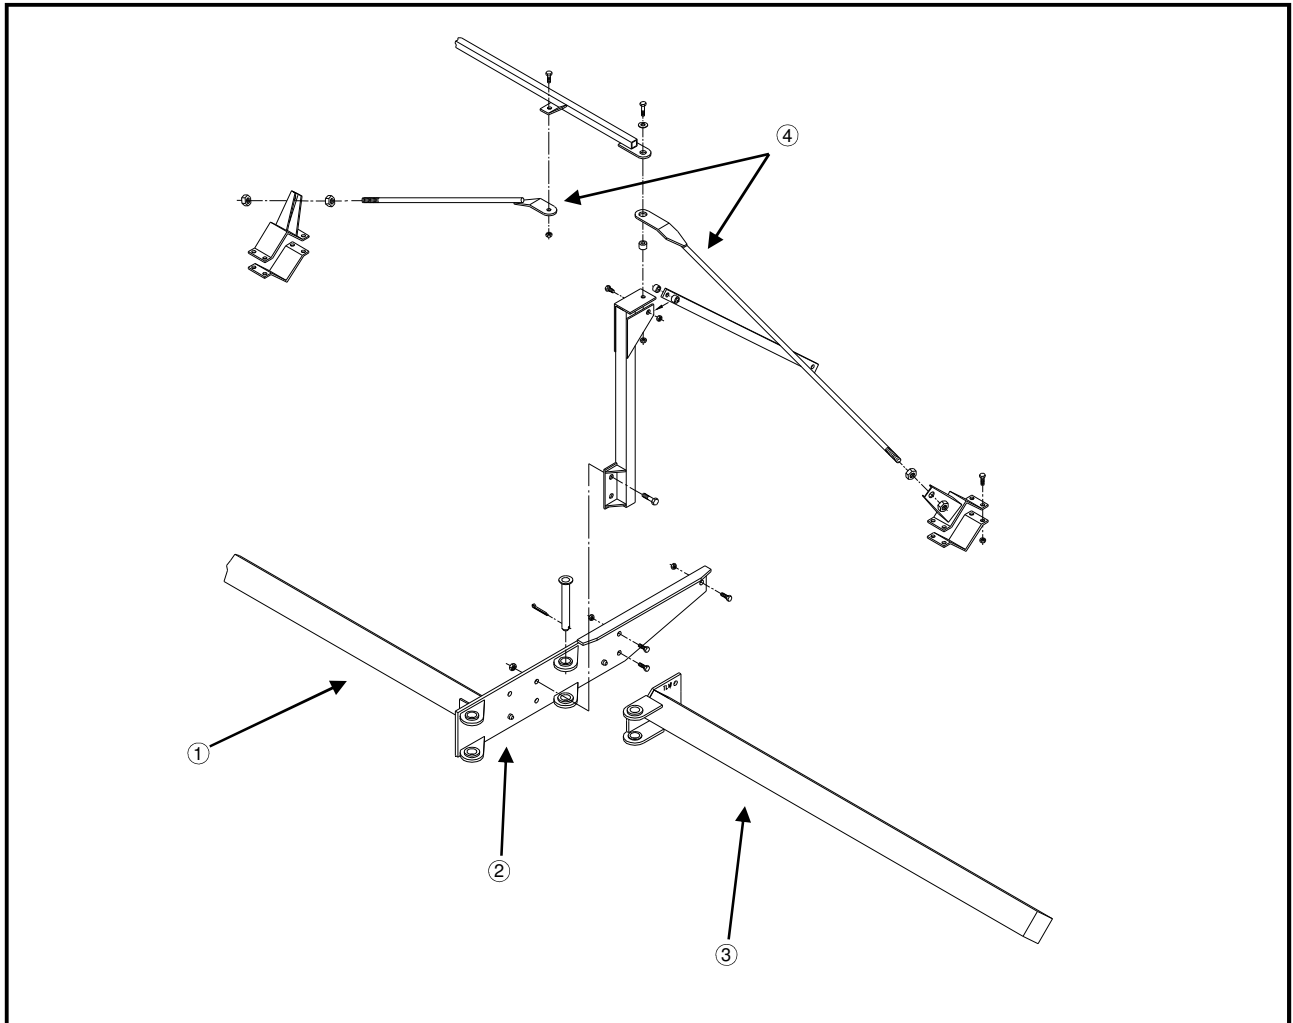

FIG 4.9
1. Attach the center tool bar (fig. 4.9, item 1) to front frame cross member with supplied hardware. Refer to the Hagie 204SP Parts Manual for correct hardware.
The guide pin that is welded to outrigger mount should be located toward the bottom (fig. 4.9, item 2).
2. Attach left and right outrigger (fig. 4.9, item 3) with supplied hardware. Refer to the Hagie 204SP Parts Manual.
3. Attach outrigger support rods if required (fig 4.9, item 4).